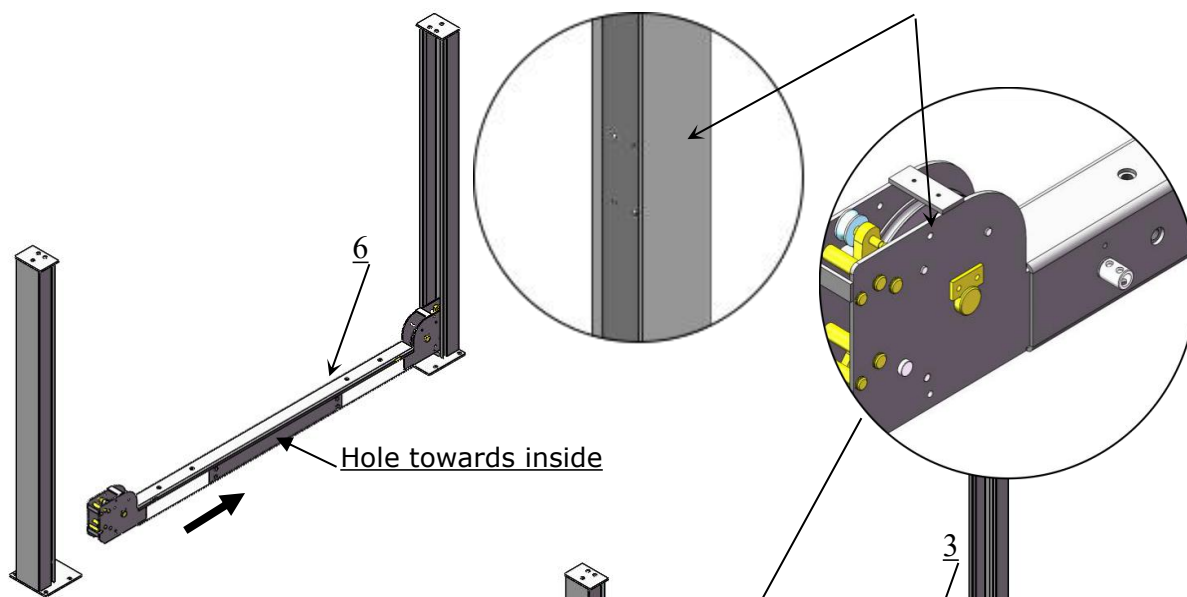
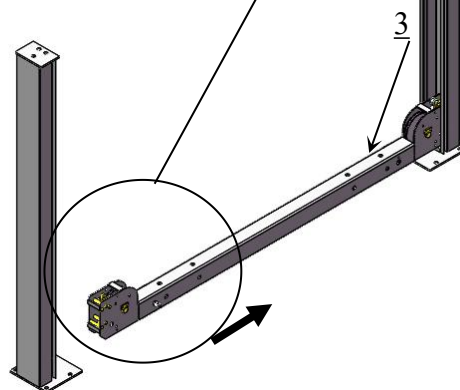

Fig. 12
Fig. 13
C. Install cross beams (See Fig.12, Fig.13).